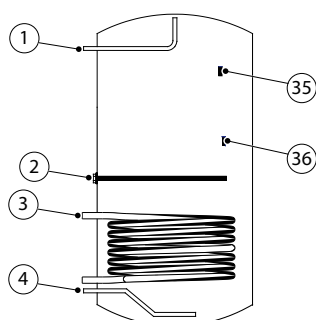

Figure 16. Heating elements
The unit has two tank temperature sensors, one is installed at the upper part of the tank (35) and the other at the bottom (36). See Figure 16. Heating elements Page 30. The upper one measures the upper temperature in the